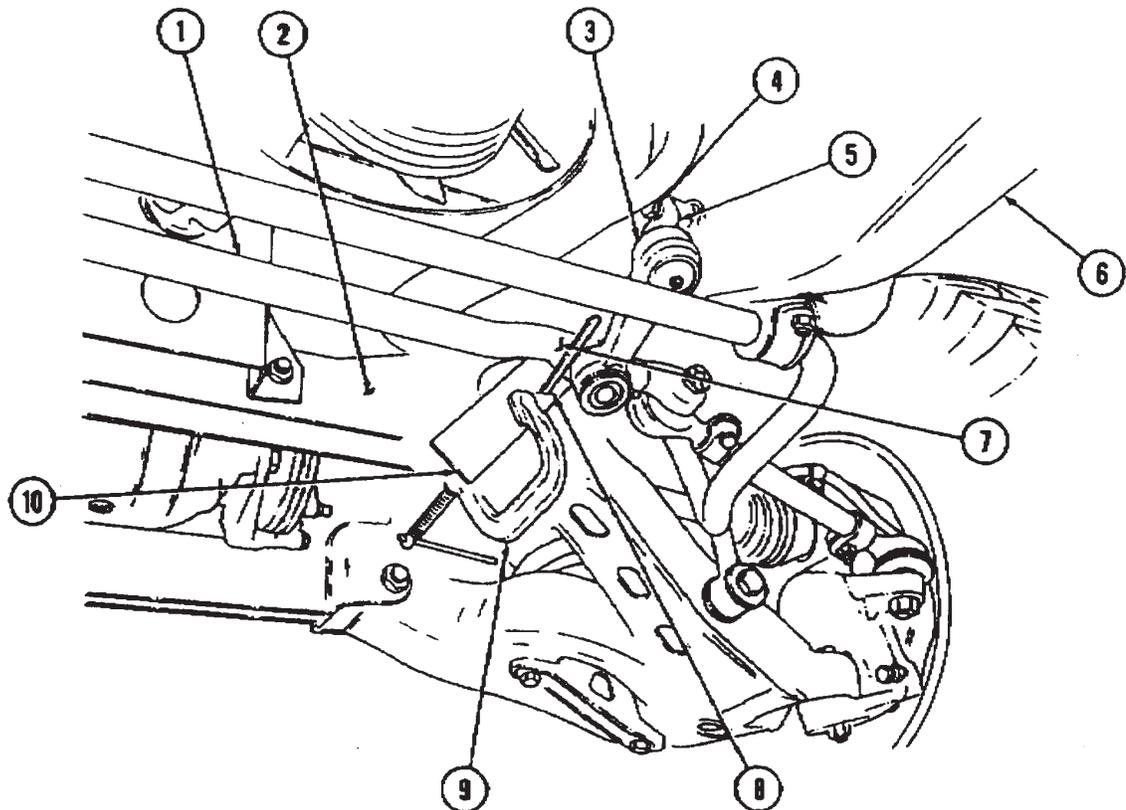

Figure 7-3. Idler Arm Inspection and Check.
### c. Idler Arm Inspection (Figure 7-3, 7-4, and 7-5)
6. Secure steel plate or scrap metal (10) to front crossmember (2) with clamp (9) as shown in Figure 7-3.
7. Pull center link (1) in downward direction to seat ball and socket of idler arm (3) as shown in Figure 7-3.
8. Use flat surface (7) of center link (1) as a guide, mark reference line one (8) on steel plate or scrap metal (10) as shown in Figure 7-3.